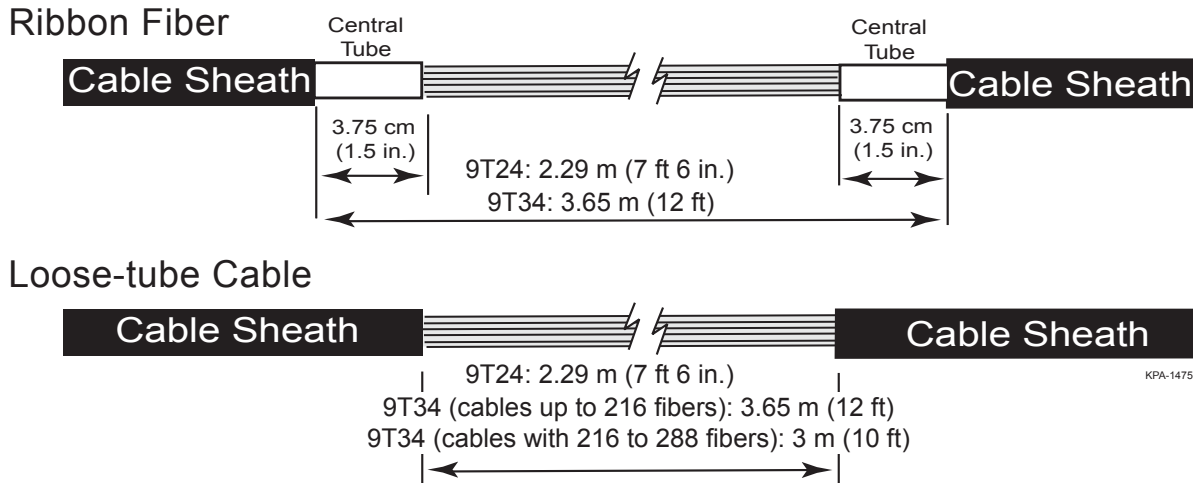

Figure 2 — Recommended Midspan Sheath Removal Lengths
Step 1: For midspan applications, remove the length of cable sheath and armor (where applicable) as indicated in Figure 2 according to the manufacturer's directions for the cable type being installed.